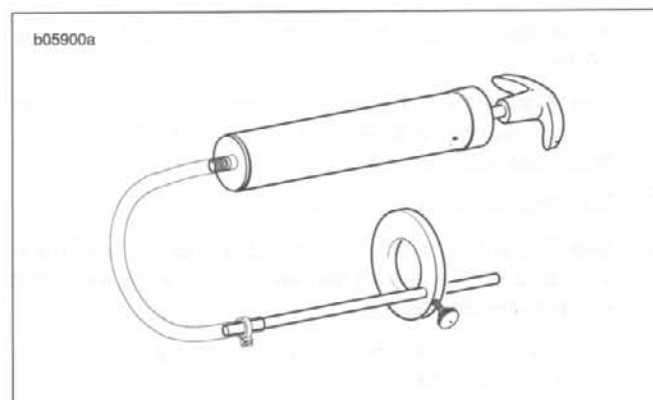

Figure 1-55. Pro Level Oil Gauge
- b. Measure distance from fork oil (4) surface to top of outer tube (1) using PRO-LEVEL OIL GAUGE (Part No. B-59000A). See Figure 1-55.